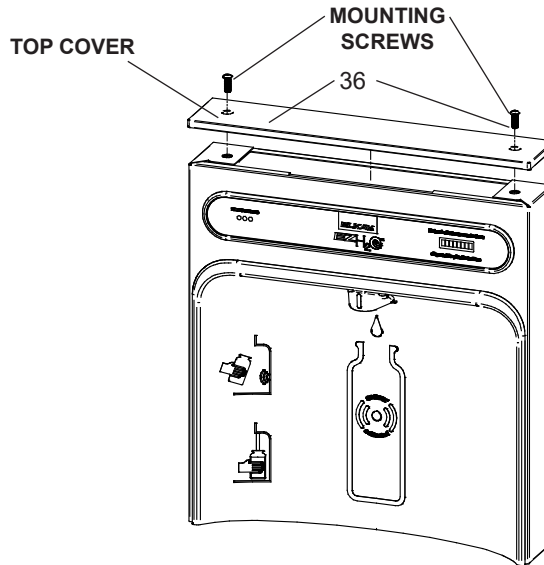

Fig. 9
- 1) **Remove two (2) mounting screws** with 5/32" Allen wrench holding top cover to Bottle Filler (See Fig. 9). Remove top cover. Note do not discard mounting screws, they will be needed to reinstall top cover.
- 9) **Once Bottle Filler is installed on wall plate tabs,** water line and power cord are installed properly, push top of Bottle Filler toward wall and line up top cover two (2) holes.
- 10) **Reinstall Top Cover on Bottle Filler** (See Fig. 9) with two mounting screws from step 1 above. Caution, do not over tighten screws.